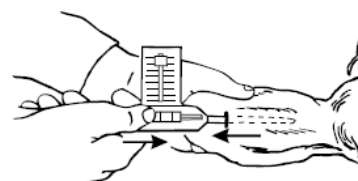

Figure 5
- Pull the needle back slightly as the implant is being deposited by pushing the plunger button forward (**Figure 5**). Keep the plunger button pushed as the needle is withdrawn from the ear.